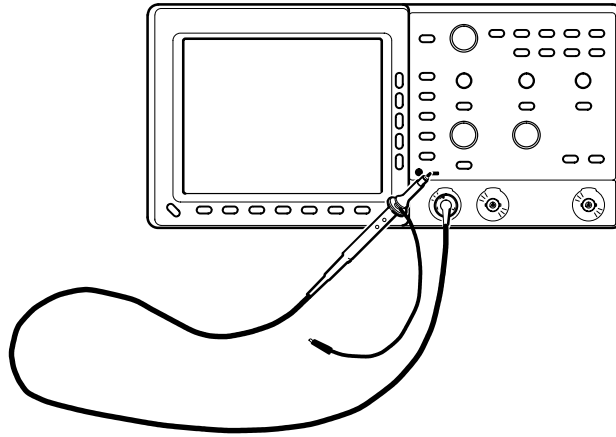

Figure 4-3: Hookup for Functional Test
1. Install the probe on **CH 1**. Connect the probe tip to **PROBE COMP** on the front panel; leave the probe ground unconnected. (See Figure 4-3.)